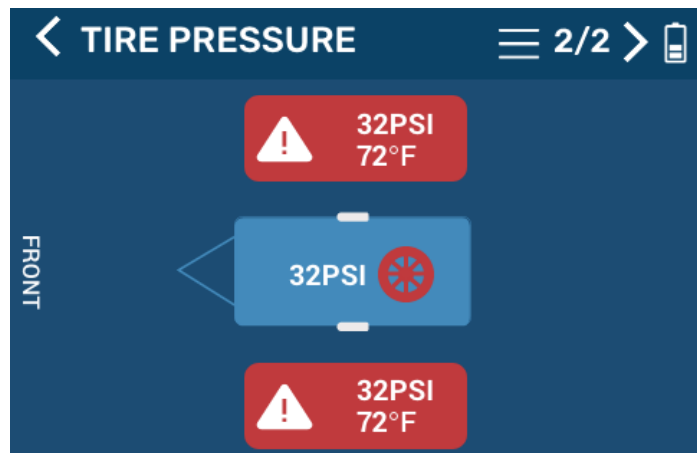

Fig.49
2. When a fault is active, the display will beep and the text box that displays the temperature and pressure for the tire experiencing the fault will turn red (Fig.49).
NOTE: The text for the spare tire with a fault will not turn red — only the spare tire icon will turn red (Fig.49).
2. If the Maximum Pressure requires adjusting, tap the next arrow to launch its settings window (Fig.49). Scroll through the window until the current setting is found, then scroll to a new limit and select it.
3. If the Minimum Pressure requires adjusting, tap the next arrow to launch its settings window (Fig.49). Scroll through the window until the current setting is found, then scroll to a desired limit and select it.
NOTE: The Maximum Temperature and the Maximum Temp Change (Fig.49) can also be adjusted in similar fashion.